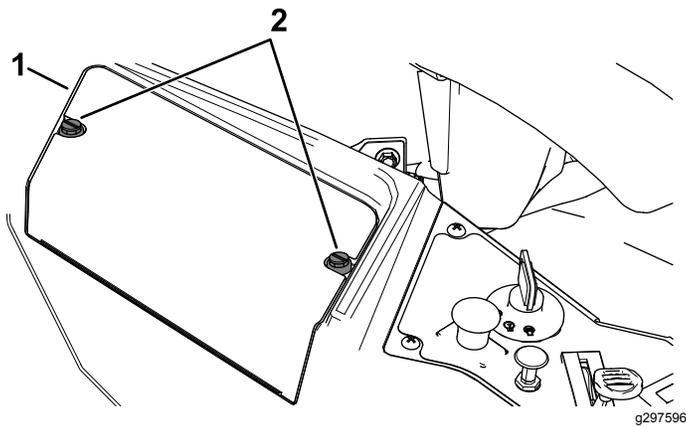

Figure 39
3. Loosen the 2 fasteners on the battery cover counterclockwise 1/4 turn, and remove the battery cover (Figure 39).
- 6. Install the battery cover by pushing down and tightening the 2 fasteners clockwise (Figure 39).